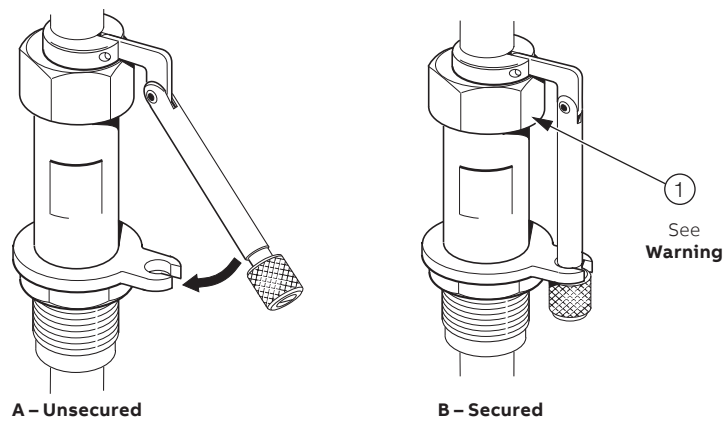

Figure 7 Safety mechanism
The flow sensor is provided with a safety mechanism (see Figure 7 A) that must be attached to its securing collar as shown in Figure 7 B. This prevents rapid outward movement by the flow sensor if nut ① is released.